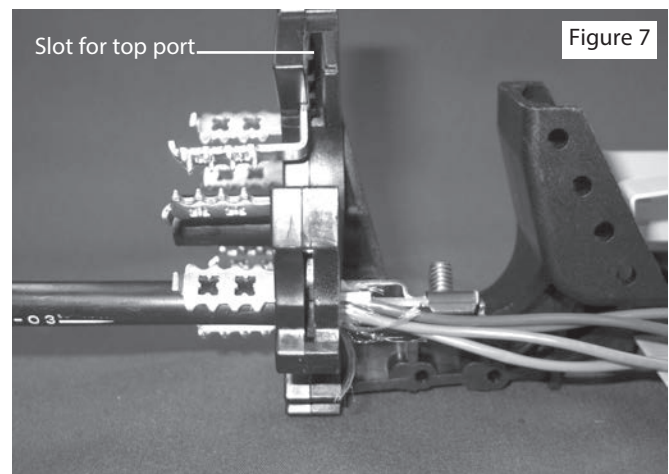

Figure 7
- Insert strength member bracket into the slot in the frame. (Fig. 7)